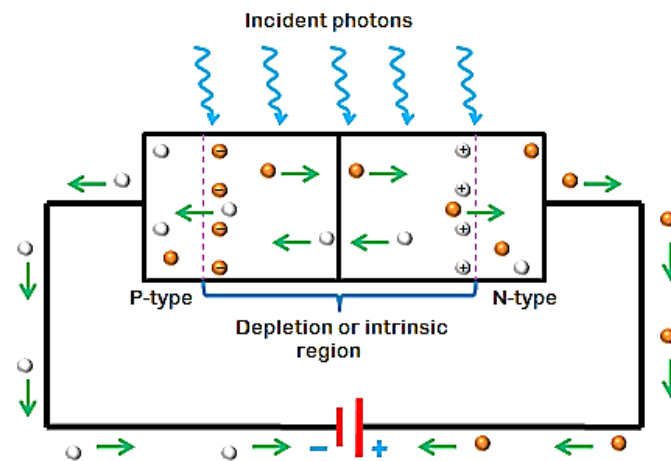

Fig.1.32: Photodiode under reverse bias
- A photodiode is a **PN junction (silicon / germanium)** operates in **reverse bias region** as shown in Fig.1.32.